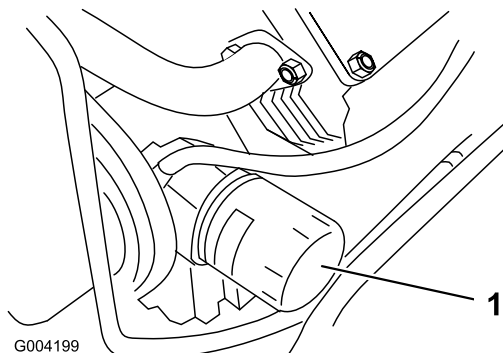

Figure 39
3. Remove the old filter (Figure 39) and wipe the surface of the filter adapter gasket.